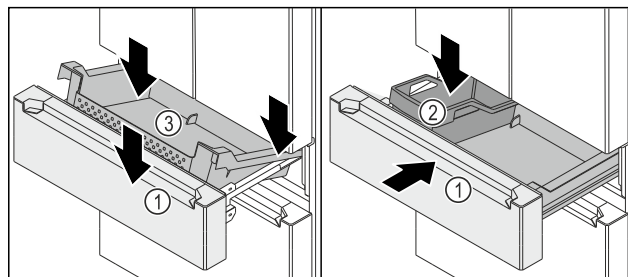

Fig. 149
- The pull-out cart Fig. 149 (1) is pulled out.
- Place the container Fig. 149 (3) to the back on the right and left rails.
- Lower the container Fig. 149 (3) at the front so that the container Fig. 149 (3) encloses the rails on the right and left.
- Insert the FlexBox Fig. 149 (2).
- Push in Fig. 149 (1) the pull-out cart.